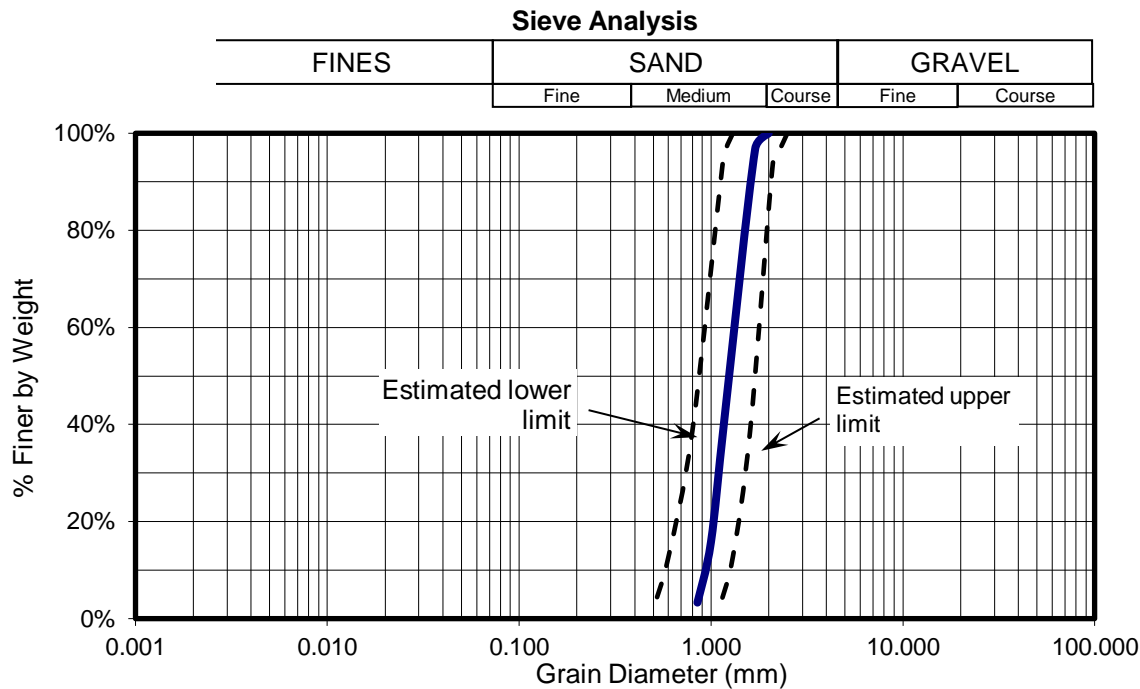

Figure 5: Estimated grain size distribution of backfill sand
8. **Backfill Material** – The backfill material will be sand provided by competition organizers on site. The sand will be a clean, dry, rounded to subrounded sand with grain size as specified in Table 1 and Figure 5. The backfill material must be used as-is; no water, additives, or chemical stabilizers may be placed in the backfill material.
Competition organizers will make reasonable efforts to ensure the competition backfill materials meet the specifications in Table 1 and Figure 5. Teams will be allowed to examine a sample of the competition backfill at the captain's meeting. No backfill samples may be removed from the meeting room. Teams may modify their wall design at this time if they desire. See section 12 below.
- a) **Reinforcement Fabrication Stage** – Each team will be provided with a single sheet of 60 lb kraft paper approximately 24 in × 24 in. The team must fabricate all their reinforcing elements from this sheet using authorized construction tools. Fifteen (15) minutes will be allocated for this stage. Teams will be penalized for time exceeding the time limit. After all reinforcing element are fabricated, excess material will be disposed of and the judges will weigh the reinforcing elements to the nearest 0.01g.
- b) **Wall Assembly Stage** – After each team's reinforcing elements have been fabricated and weighed, the team will be provided with two sheets of poster-board (22 in × 28 in) and a roll of packing tape. The team must assemble their wall using these materials and authorized construction tools. Dimensions for the wall facing are shown in Figure 5.
- i) Tape may be used for only two purposes: 1) to join the two poster-board sheets along the lap splice (Figure 5) to form the wall facing and 2) to attach reinforcement to wall facing. The poster-board sheets must be joined using a single lap splice on each side not exceeding 1" to form the wall facing. A single continuous strip of tape may be used on each side of the poster-board to join the poster-board sheets. The tape must be in contact with only the two poster-board sheets. No other adhesives may be used to join the poster-boards.
- Clean sand with grain size distribution as specified in Table 1 and Figure 5